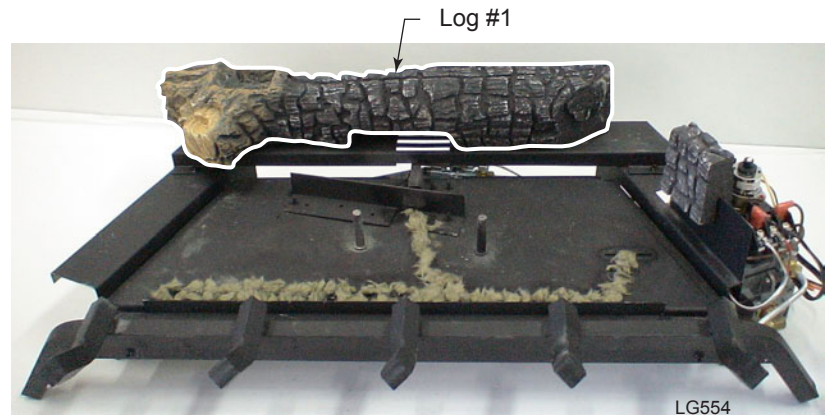

Figure 21
2. Place log #1 by setting the log over the rear bracket over the two pins. *Figure 21*